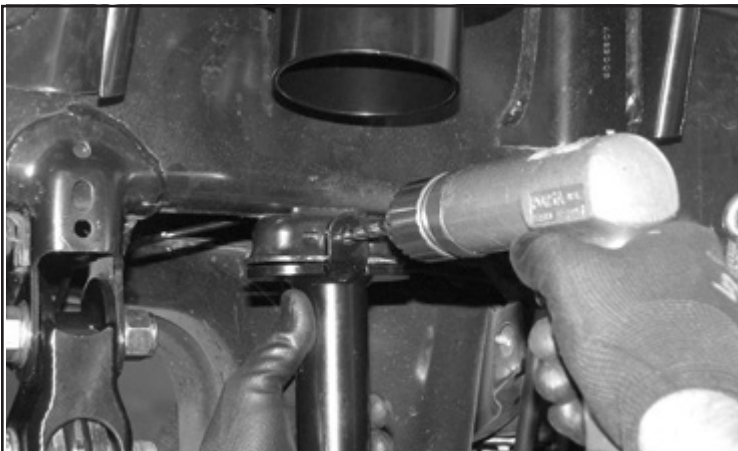

FIGURE 25 - STEP 29
29. Using the outer tab on the bump stop as a drill guide, drill a 5/16" hole all the way through the factory bump stop mount. **SEE FIGURE 25**